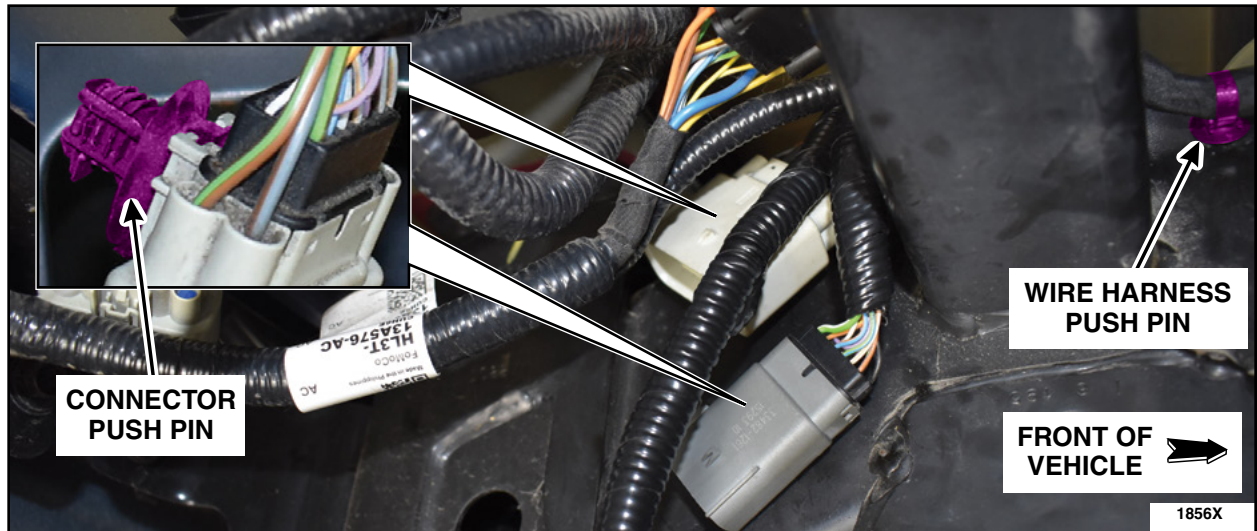

FIGURE 79
25. Attach the two connectors push pin and the wire harness push pin retainers. See Figure 79.